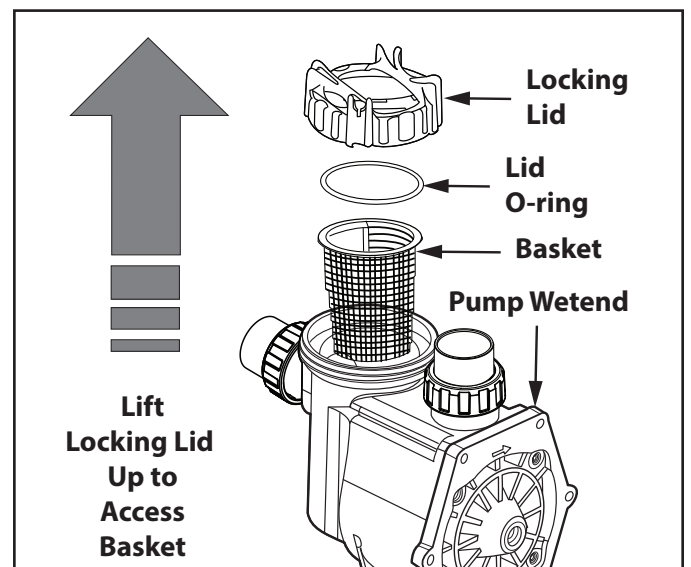

Figure 15. Remove Pump Lid
4. Following the markings on the locking ring, turn the ring counter-clockwise until the ‘START’ markings align with the ports. See Figures 15.